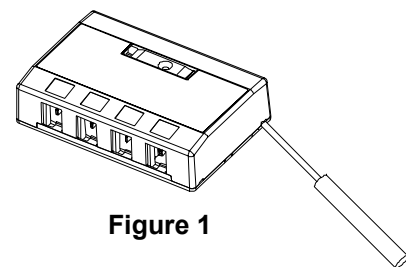

Figure 1
1. Remove cover from box by inserting a screwdriver into the cover release slots. See Figure 1.